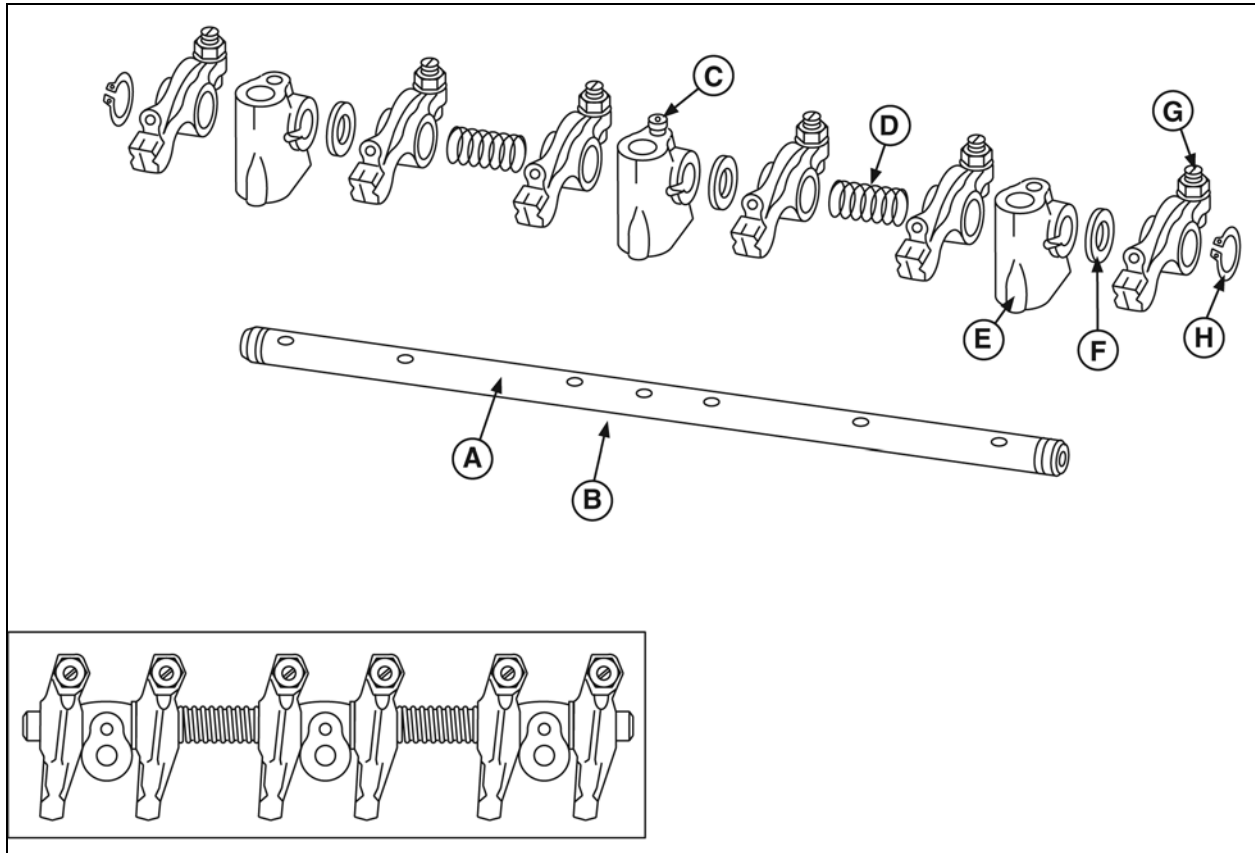

Figure 24
3. Assemble rocker arm (**G**) components, noting order of assembly shown in Figure 24.